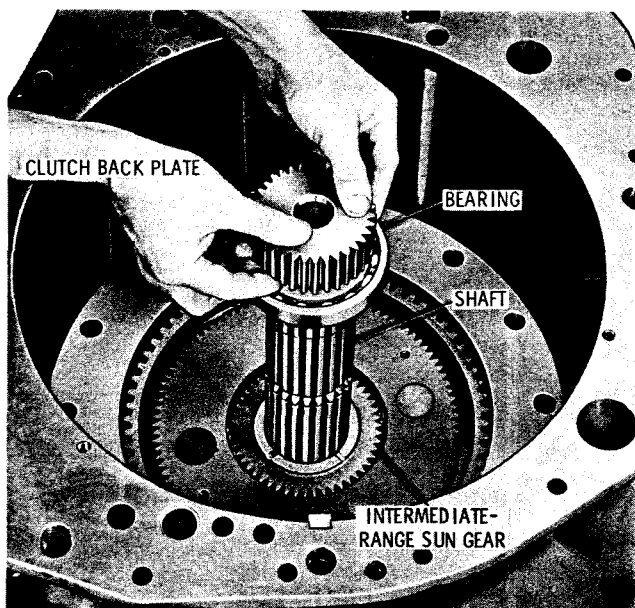

Fig. 7-15. Installing transmission main shaft and ball bearing
(12) Install the high-and-intermediate range clutch back plate (fig. 7-15). Install the intermediate-range sun gear.
(13) If the ball bearing was removed from the main shaft, install it with bearing identification toward the rear. Seat it firmly against the shaft shoulder. Install the main shaft, seating its bearing against the intermediate-range sun gear (fig. 7-15).